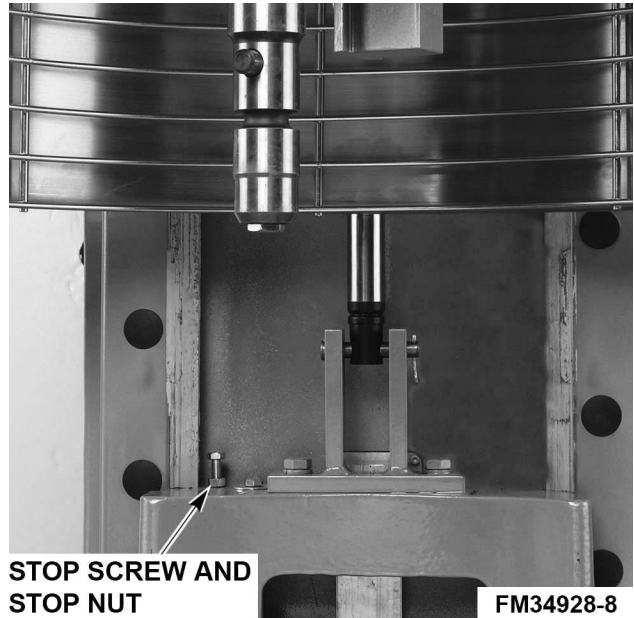

Fig. 13
- Loosen the bottom locking nut, (Fig. 13) and turn the stop screw counterclockwise to increase the clearance or clockwise to decrease the clearance.